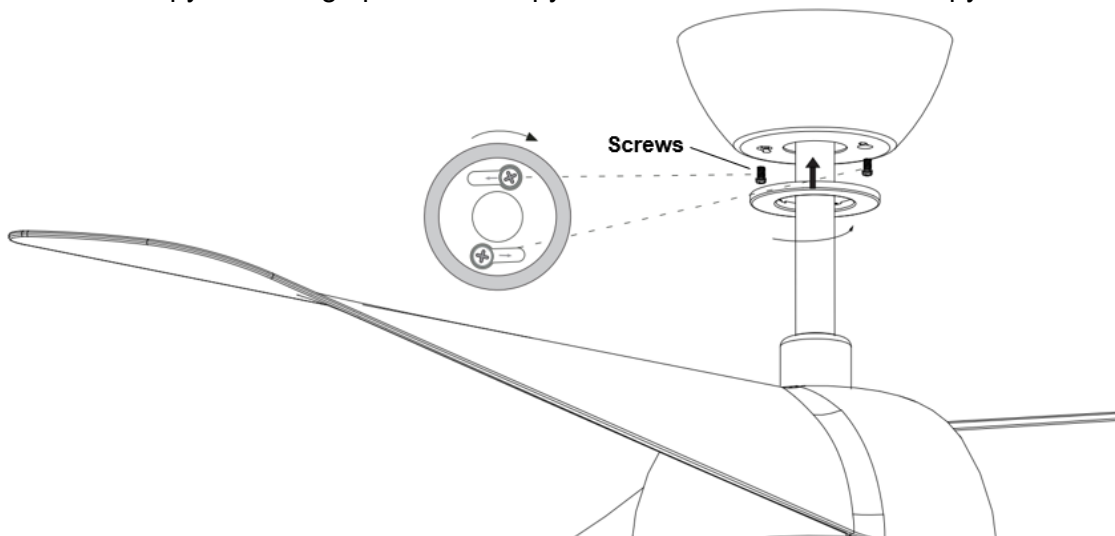

Fig. 15
**INSTALLATION OF THE CANOPY (Fig. 15)**